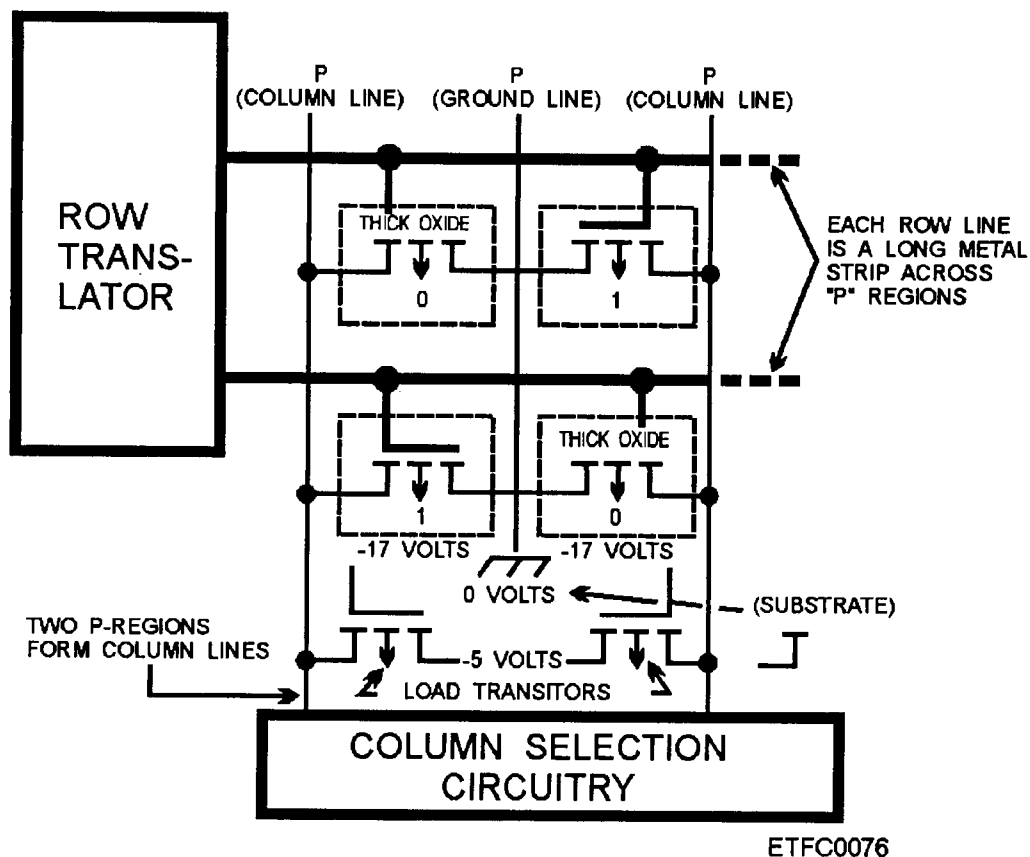

Figure 6-37.—MOS ROM.
- Transistors-Bipolar or MOS (fig. 6-37; MOS ROM)